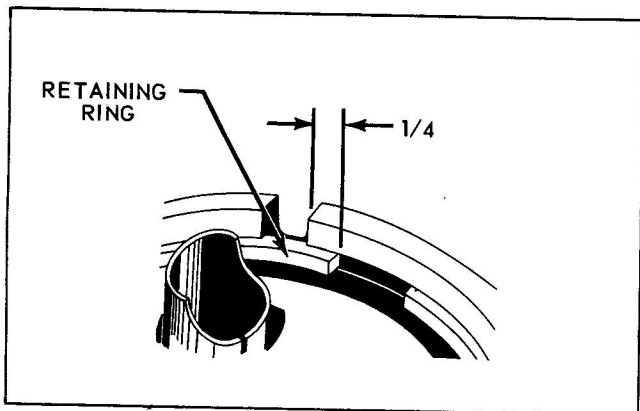

Figure 3-42. Location of End of Retaining Ring
h. Replace retaining ring so that end of ring is about 1/4 inch from removal slot as shown in Figure 3-42. This will simplify future disassembly.